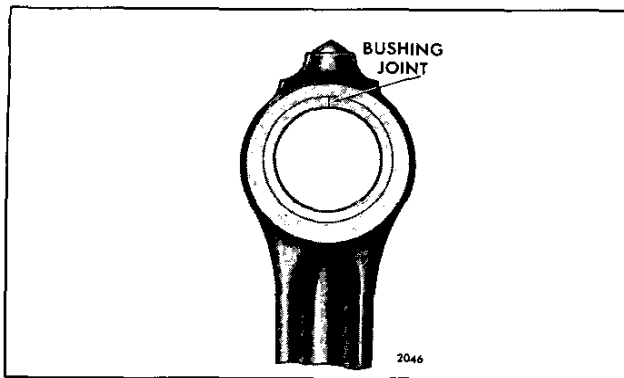

Fig. 6 - Location of Bushing Joint
2. Start a new bushing straight into the bore of the connecting rod, with the bushing joint at the top of the rod (Fig. 6).